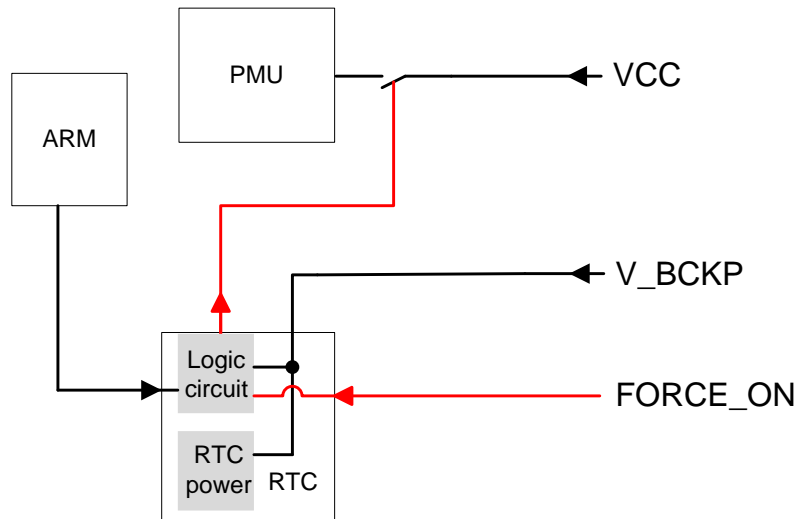

Figure 3: Internal Power Construction
- Sending command “\$PMTK225,4*2F” (used to turn on the switch as indicated with the red line in Figure 3) to enter backup mode permanently. The only way to wake up the module is to pull FORCE_ON to high (which turns off the switch in Figure 3). The typical current required in this way to enter backup mode can be 840 μ A.